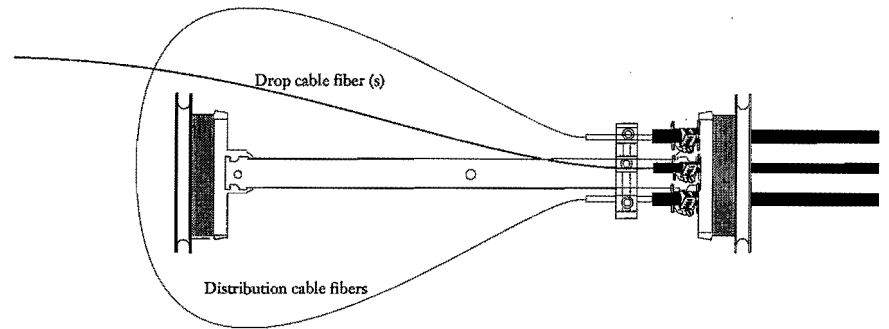

Figure 20
7.13 Mount the cable in the prepared closure or terminal end cap along with the drop cable (Figure 20). Refer to the instruction manual provided with the closure for complete loading procedures. **BE EXTREMELY CAREFUL NOT TO DAMAGE THE EXPOSED FIBERS OR RIBBONS DURING THIS STEP.**